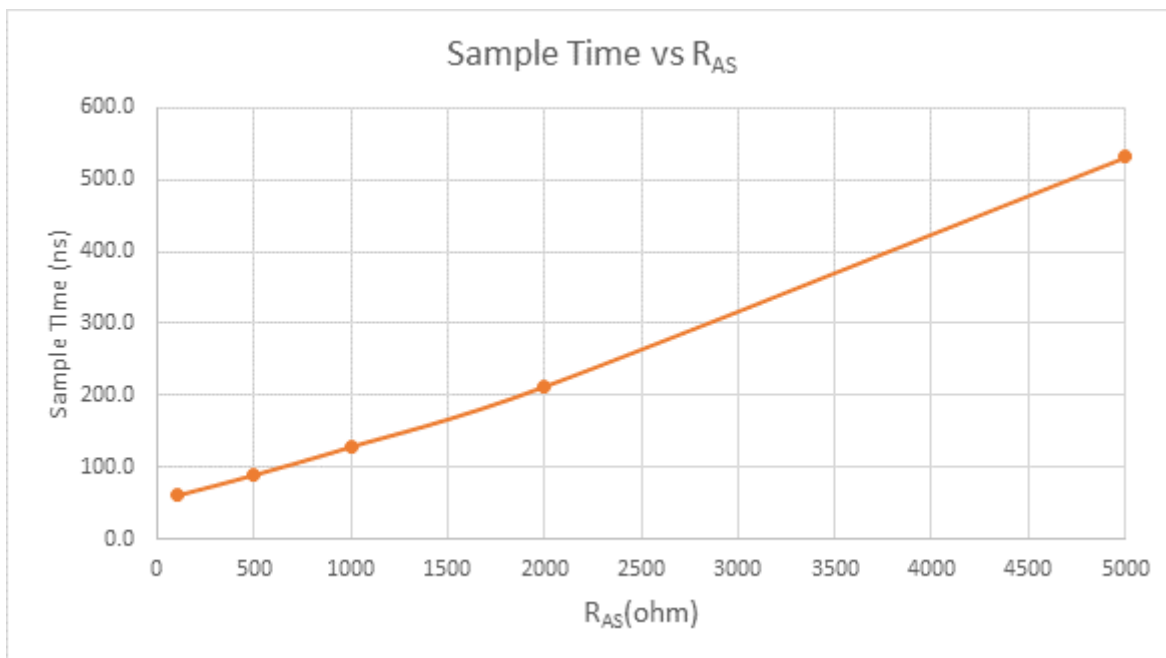

Figure 33. Sample time VS. R_{AS}
³ See Figure 33, "Sample time VS. RAS".
⁴ See Figure 33, "Sample time VS. RAS".
- ⁵ See Figure 33, "Sample time VS. R_{AS}".